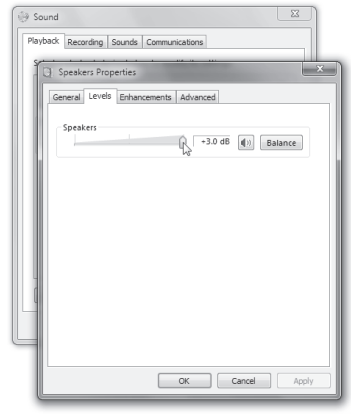

Figure 5
7. Select the "Playback" tab, then select the "Level" tab to set the computer's Master Volume to 100% (Figure 5), and use the Studio GT's front panel Level knob to control the overall output from the speakers and headphones.